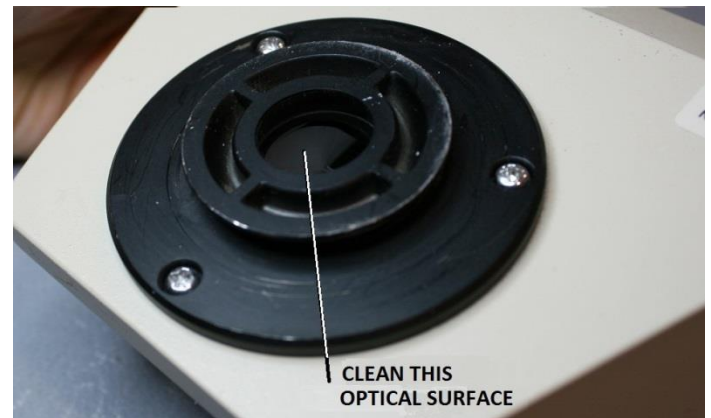

Figure 72 – Clean face of prism P1 in mounting dovetail
If necessary, use a hand-held air blower and a dust-free lens-cleaning brush to remove any loose dust from the exposed face of the P1 columned prism in the center of the circular mounting dovetail on the bottom of the main housing (this is a glass cylinder, rather than a conventional prism). Then use a pre-moistened optical lens-cleaning wipe (item 7 of Appendix 1) to clean the exposed face of columned prism P1 (see Figure 72).